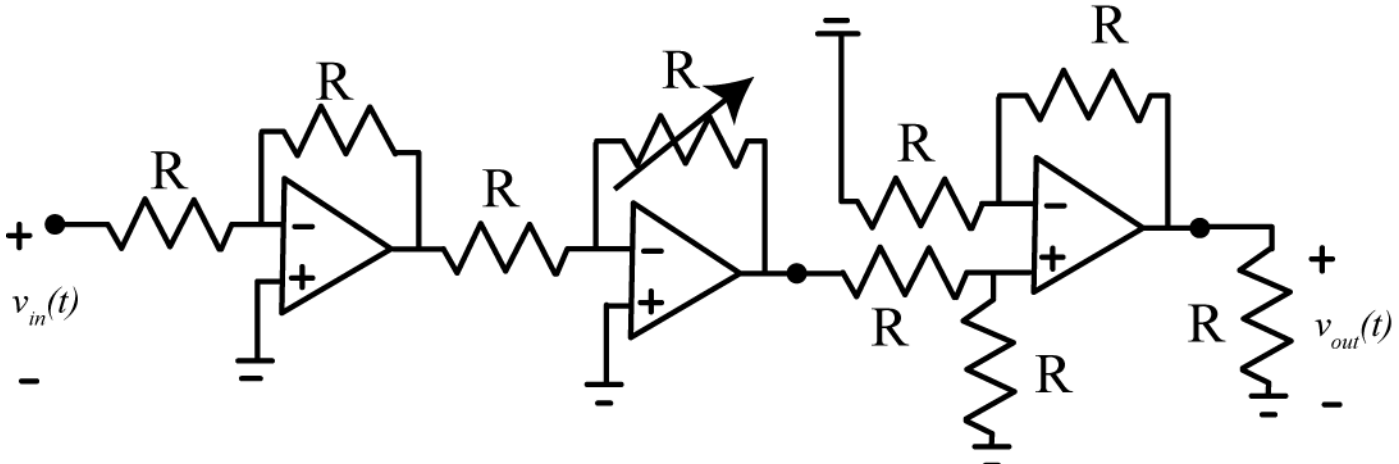

Figure 4. Prefilter and differential amplifier.
- 3) Now connect the first two parts of your circuit, the prefilter and the differential amplifier, as shown in Figure 4. The output of this combined circuit should match the input. If it is a little off, modify the variable resistor so they match (though they should be close). Do not go on if the input and output do not match.